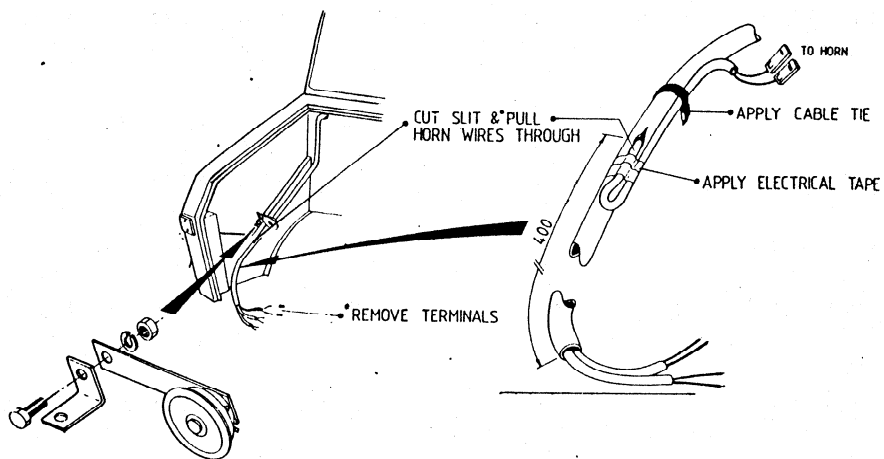

FIG 1 - MODIFICATION DETAILS
- e. Refer to Fig 1 and cut a 30 mm slit along main wiring loom, locate and withdraw horn wires through slit.
- g. Refit horn to earth stud located on inner side of R/H mudguard (below air cleaner) as shown in Figs 1 and 2.
- h. Refit horn wiring insulating sleeving ensuring sleeving enters into main wiring loom and secure as shown in Fig 1.
- i. Trim horn wiring to suitable length, fit terminals (item 2 Table 1) and connect to the horn.